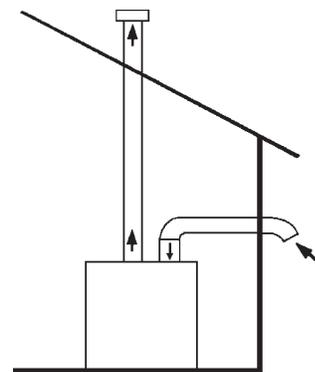

FIGURE 14. DIRECT VENT VERTICAL/HORIZONTAL TERMINATION
1. The exhaust and intake air termination must be a minimum of 12 inches above anticipated snow or grade level which ever is higher, see Figure 14.